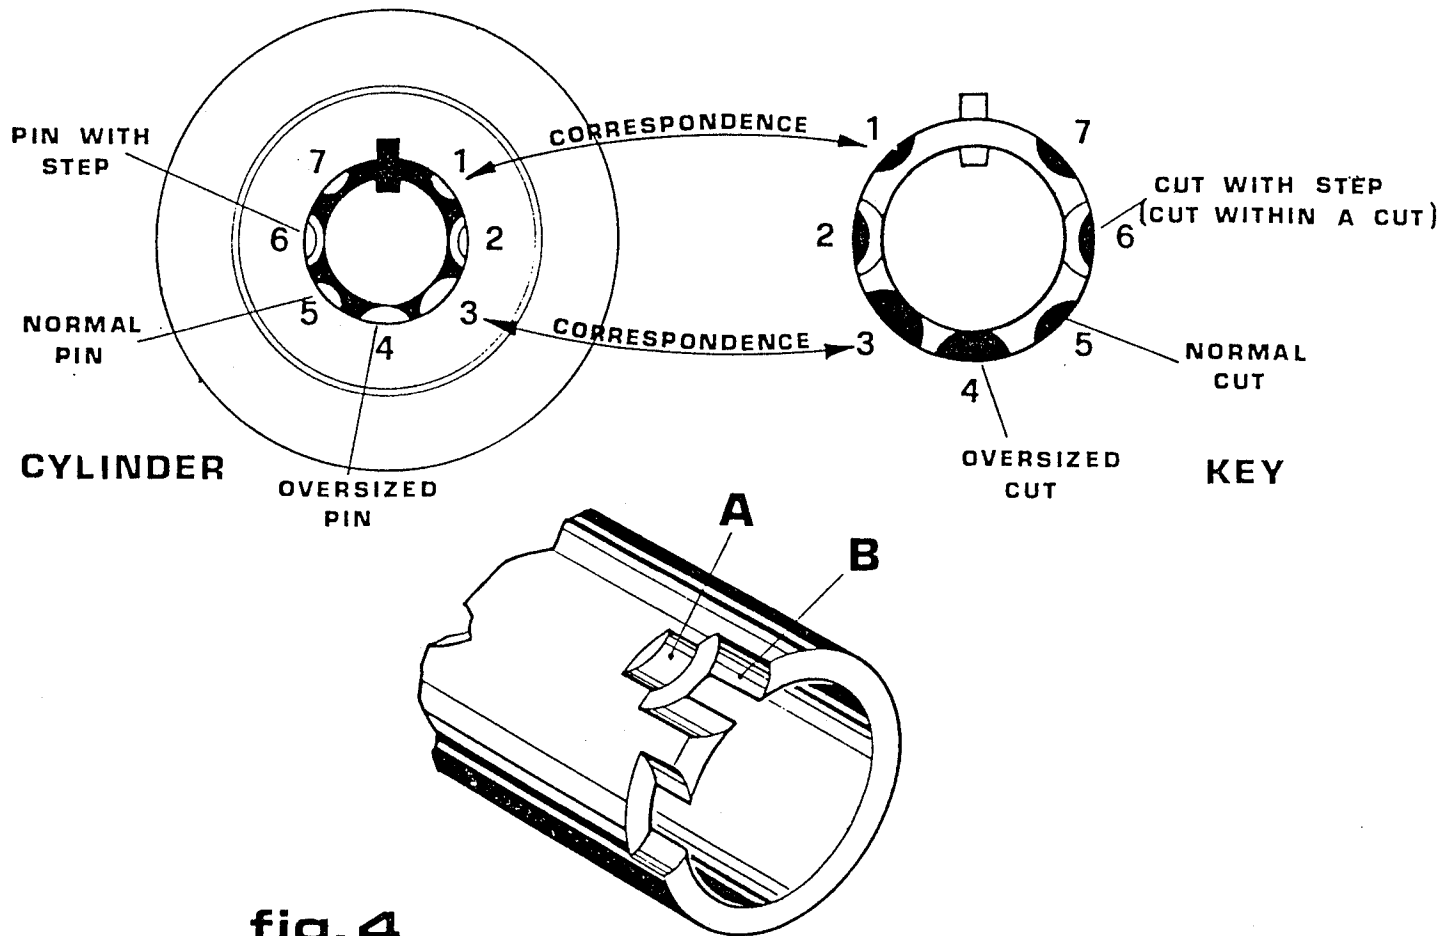

fig. 4
- 3) Proceed in duplicating the cuts (A) fig.4.
- 5) Proceed in duplicating cuts (B)